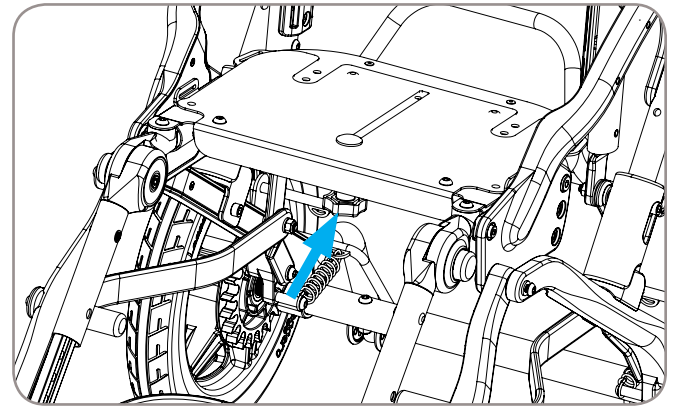

Figure 21, Single Knob 12" Chair
2. Loosen knob(s) under seat plate. Reference Figure 21 or 22.